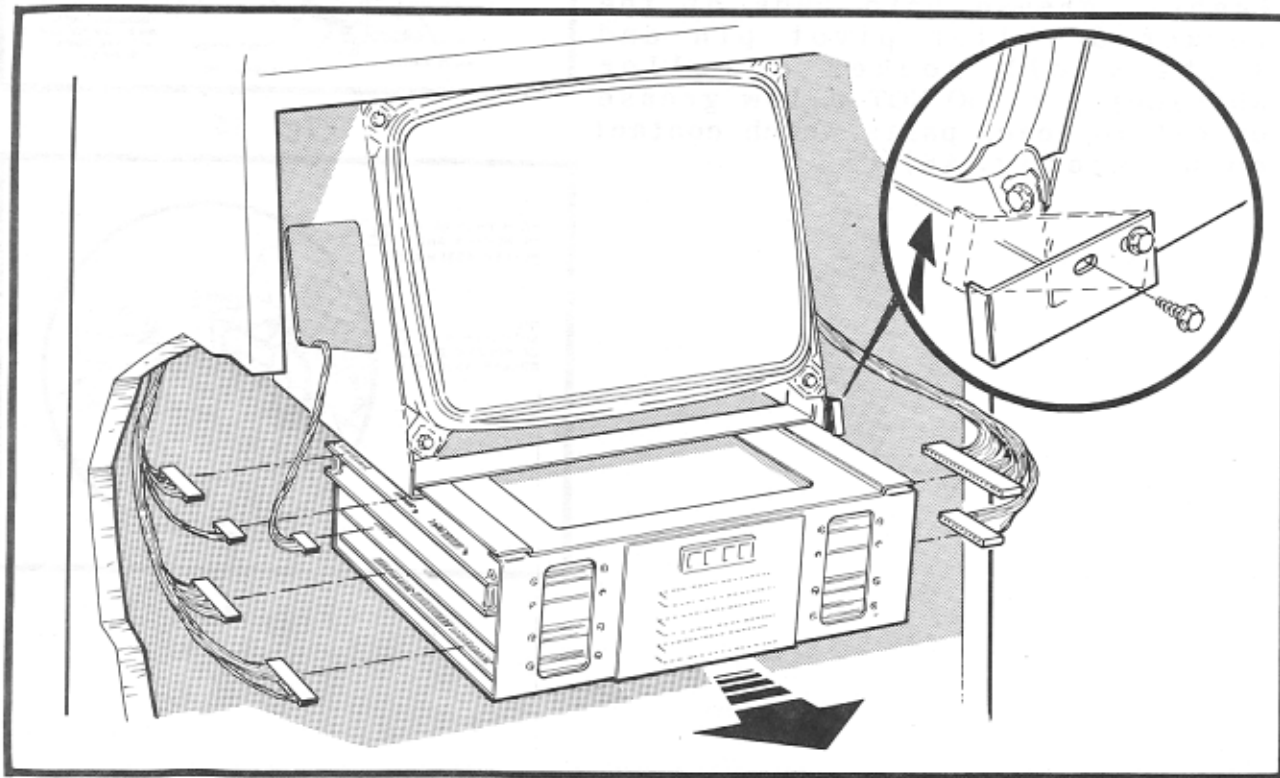

Fig. 47
2. Remove the front screw from the card retainer bracket and lift bracket upward until it clears the card rack (see Fig. 47).